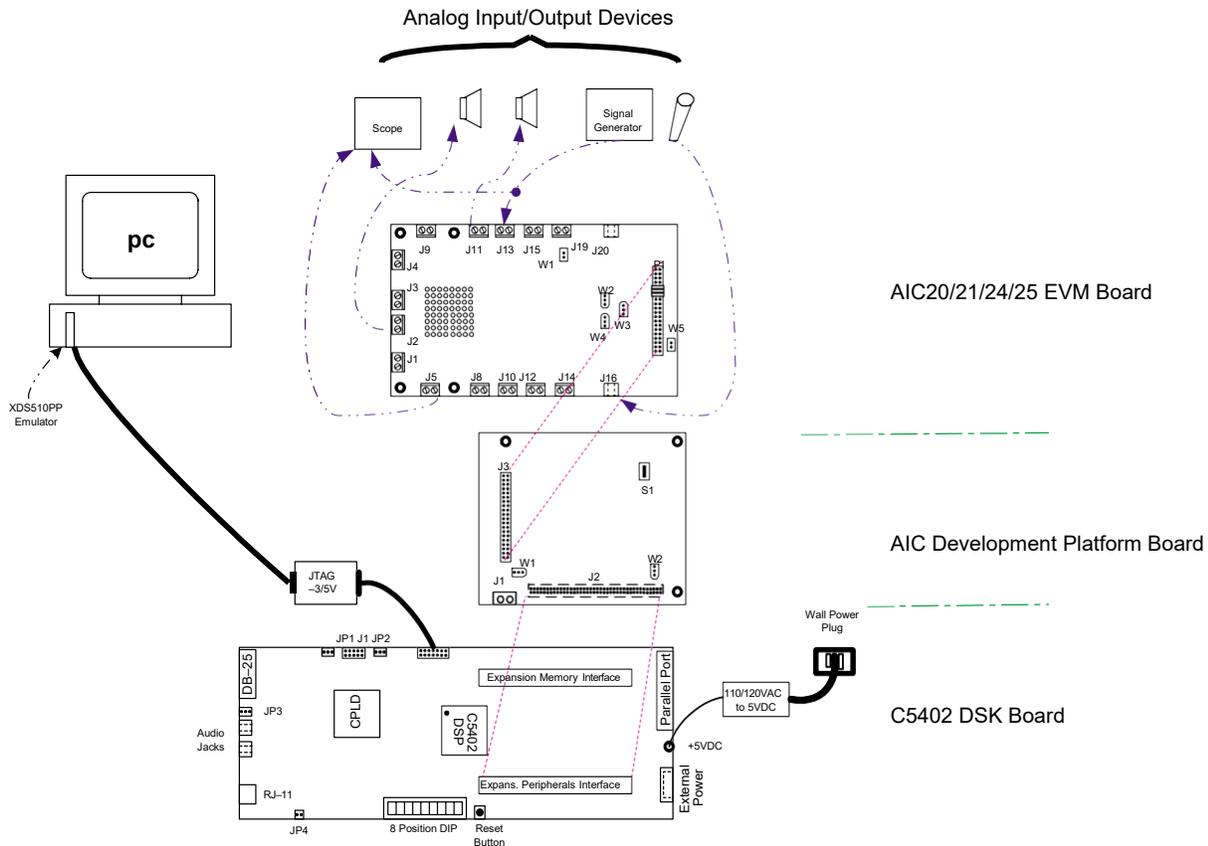
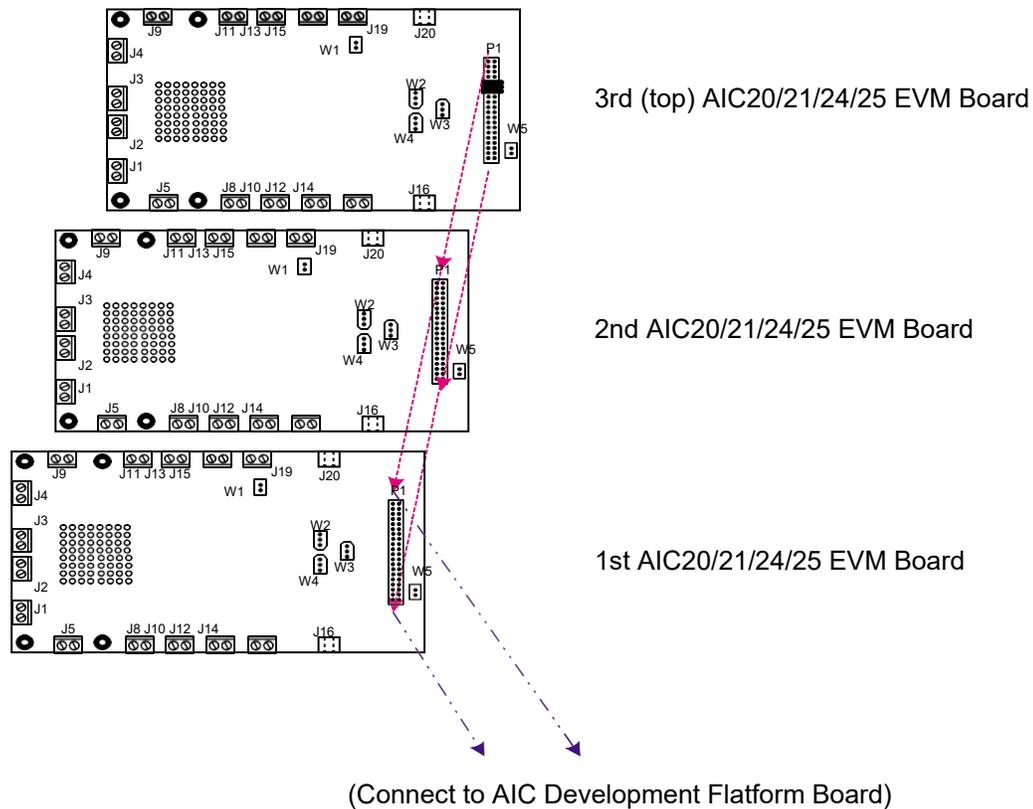

Figure 1. 2-Device/4-Channel AIC20/21/24/25 EVM System and Hardware Connections
Figure 2. 6-Device/12-Channel System EVM Boards Connections
After the hardware configuration, connect and build the system as shown in Figure 1.
- Some external analog input/output devices, such as a microphone, signal generator, speaker, and oscilloscope need to be connected to the system. Understanding that the actual input/output to a codec channel is programmable, the analog I/O connection in Figure 1 is based on the software configuration which is discussed in Chapter 3.
By adding two more codec EVM boards on top of the 4-channel system, a 6-device/12-channel EVM system is obtained. The additional hardware connections are shown in Figure 2.
3. Plug the three layers of boards together (note there is no keying between the AIC development platform, also called the AIC mother board, and the AIC20/21/24/25 EVM board connectors, and therefore special precautions are necessary for proper connections). Refer to Figure 1 and Figure 2 for the connections.
5. Connect the microphone, signal generator, speakers, and scope probes to the system's analog connections, refer to Figure 1 and/or Figure 3.
8. Connect the ac-to-dc power supply to the DSK board (refer to Figure 1), and power-up the whole EVM system. At the P1 connector at the top of the AIC EVM board, verify the following measurements:
9. Push the RESET button on the AIC development platform board, refer to Figure 1 for the location (S1), to hardware-reset all of the codecs.